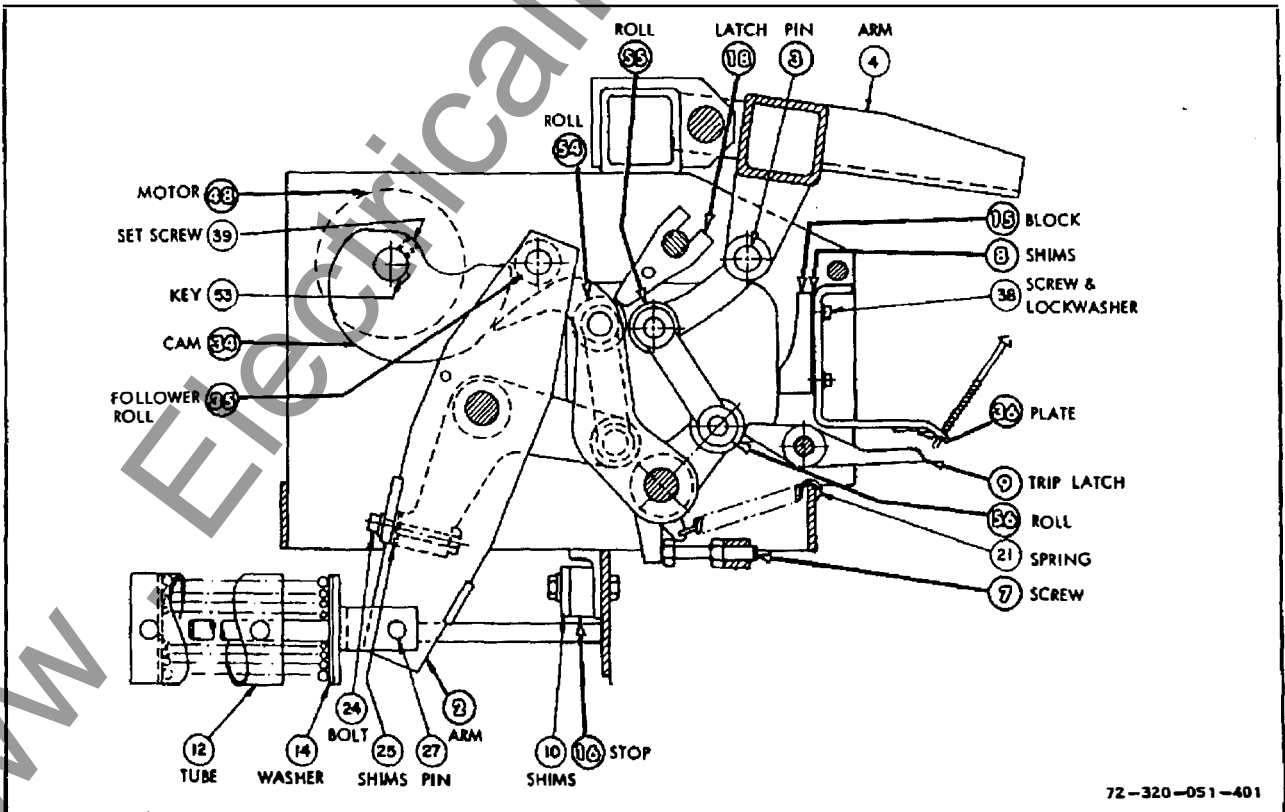

Fig. 13 - Stored energy operator assembly.
STORED ENERGY OPERATOR (Figs. 13 & 14)
1. Cam (34) is engaged with following roll (35).
2. Latch (18) is not engaged with roll (54).
Switch can now be closed by slowly turning charging handle clockwise. The breaker is fully closed when arm (2) is against stop (16) Fig. 13.